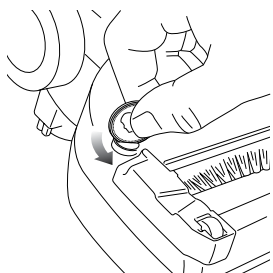
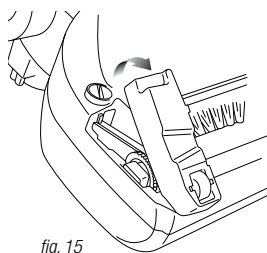

fig. 14
fig. 15
- For easier cleaning, the brush roll can be removed from the nozzle. Using a coin, turn the dial next to the brush roll access door to the unlock position. (fig. 14) Remove the brush roll access door. (fig. 15)